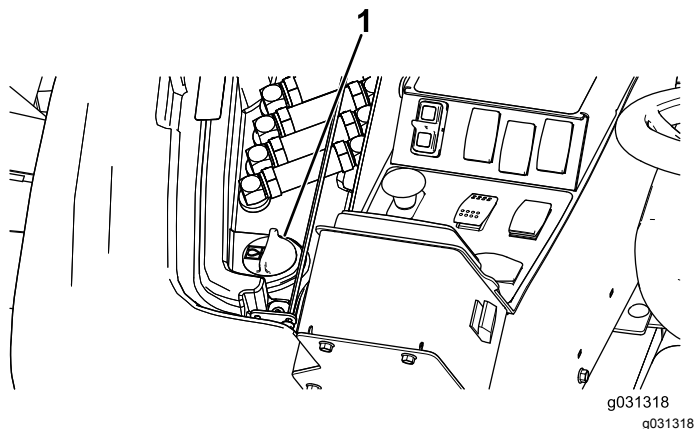

Figure 120
2. On the right side of the machine, raise the access cover to expose the hydraulic-tank cap (Figure 120).
3. Clean the area around the filler neck and cap of the hydraulic tank (Figure 120).